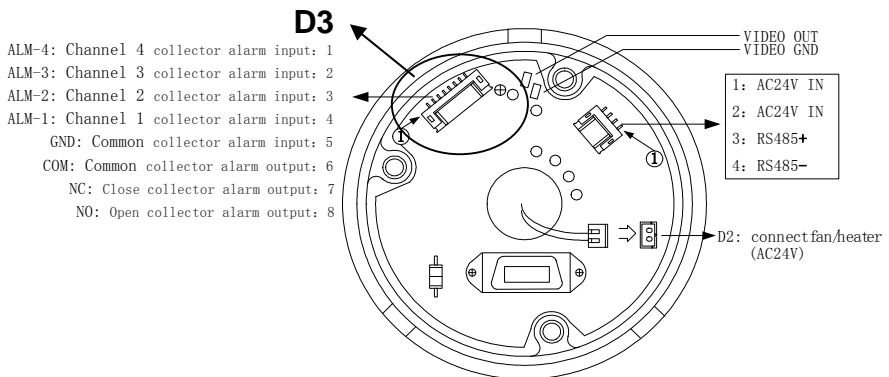
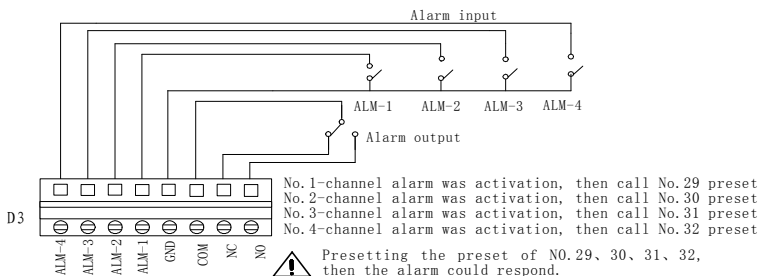

Figure 15
Figure 16
- 7) Insert attachment plug in aluminum alloy into socket D2 (Figure 15) . According the fig of D3 to connection. As show of fig47 when dome identify the alarm signal, that will set according the program immediately, then startup camera, switching the image of alarm field to main monitor. Surveillance the alarm preset, then record it in time. Fig16 is connection of alarm control
- 5) System pilot wire after (Figure 15) marking meets, after the electricity then controlled the ball machine for the system on.